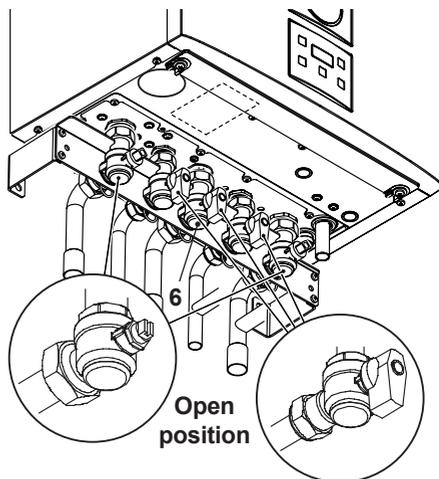

Fig. 7.1
- Open the gas cock 6 (Fig. 7.1) on the appliance and check the gas connector on
- Open the valves located in the lower part of the boiler (Fig. 7.1).